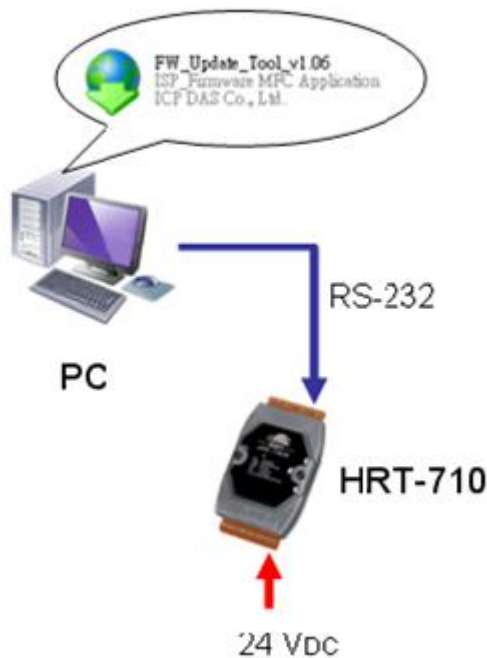

Figure 4-2 RS-232 Connection between PC and HRT-710
- (3) Connect RS-232 cable between PC and HRT-710 and turn on the power of HRT-710 (LED 1,2,3 will flash every second => Firmware Update Mode) like Figure 4-2.